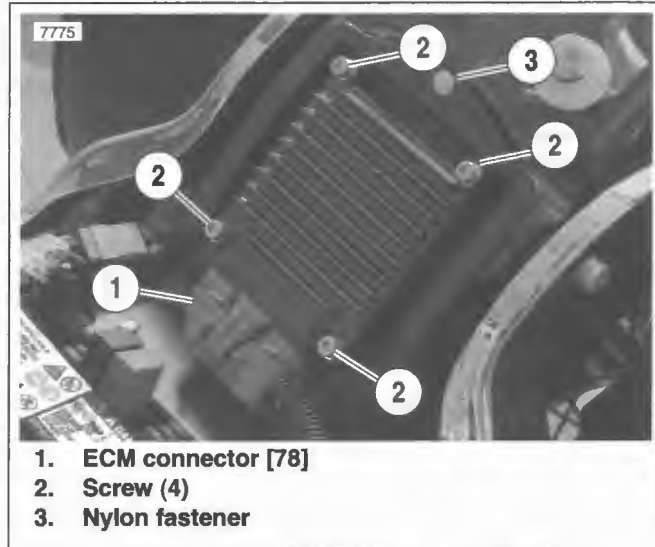

Figure 8-3. ECM Mount: FLSTC/FLSTN/FLSTSC
- a. For FLSTC/FLSTN/FLSTSC, see Figure 8-3. Remove four screws (2) holding ECM to mounting bracket. Depress latch on connector [78] and disconnect from ECM.
- a. For FLSTC/FLSTN/FLSTSC, see Figure 8-3. Install four screws (2) that secure ECM to mounting bracket. Tighten to 45-55 **in-lbs** (5.1-6.2 Nm).